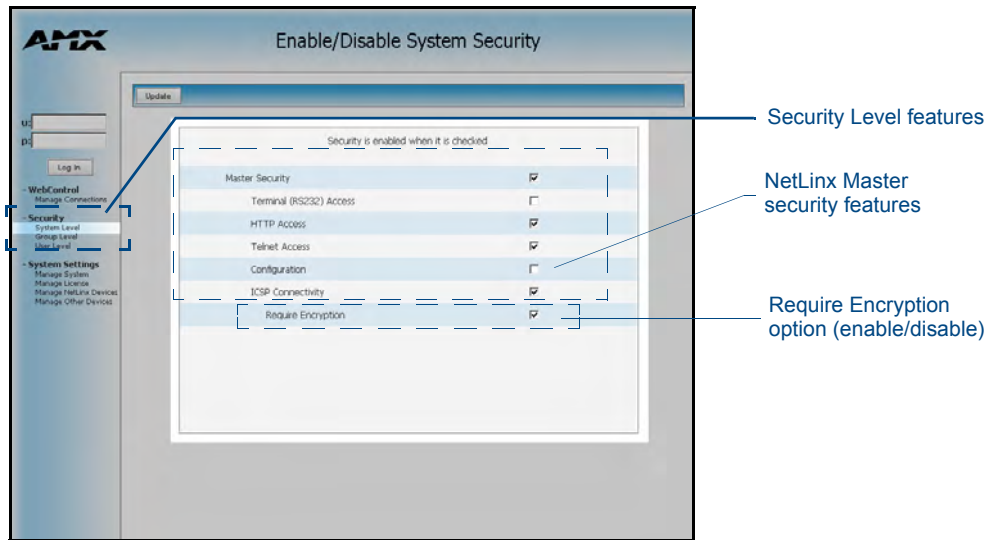

FIG. 36 System Level Security - Enable/Disable System Security page with selections
2. Click the **Security Level** link (*from within the Security section of the Navigation frame*) to open the System Security page. The **Master Security** checkbox selection (FIG. 36) toggles the appearance of the NetLinx Master security options.